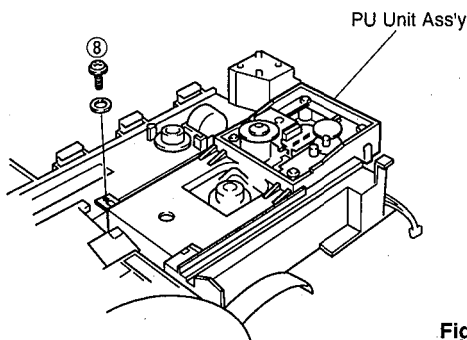

Fig. 4
- a. Remove 1 screw (⑧) and then remove the PU Unit Ass'y as shown Fig. 4.